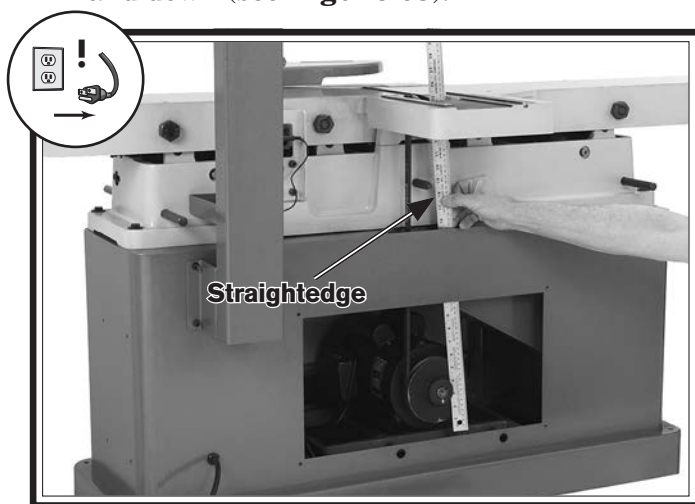
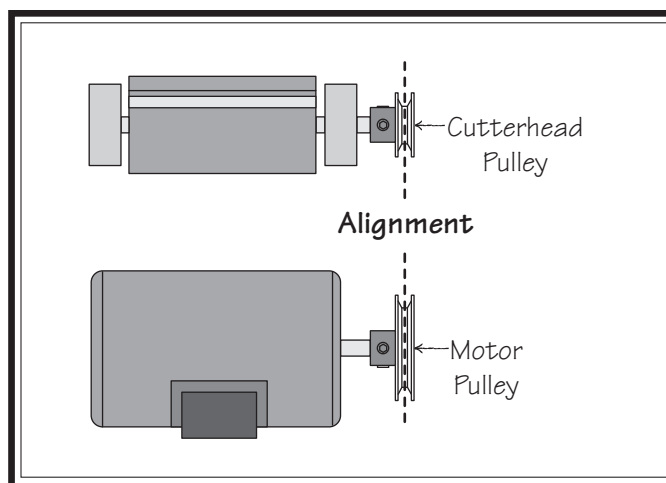

Figure 62. Example of checking belt alignment.
Figure 63. Example of V-belt aligned with pulleys.
3. Place a straightedge against both pulleys (see **Figure 62**) and check to make sure they are aligned and that V-belt is straight up and down (see **Figure 63**).
6. Tighten motor mount adjustment nuts. V-belt should be parallel and aligned as shown in **Figure 63**.